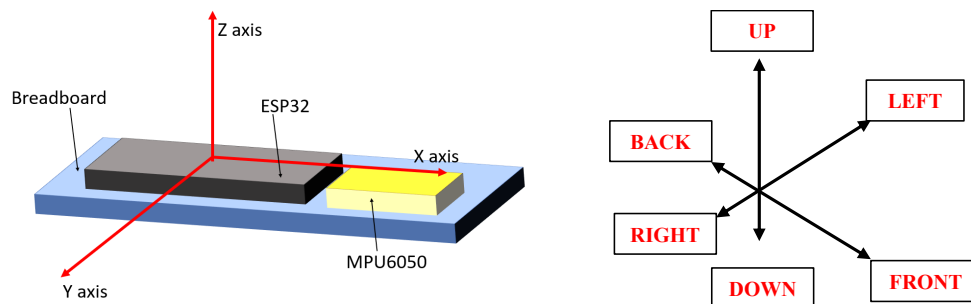

Fig 5. Motion Detector Axes Orientation and Motion Notations
2. ESP32 is working as a client and reads the last updated channel value from ThingSpeak server. As the last value is ‘ACTIVATE’, turn on the **GREEN** Led to indicate that system is in armed state. You can consider that your system has detected **MOTION** if any of the following conditions occur. Also turn on **RED** Led to indicate motion. The 3 different axes of motion: X, Y, Z, and corresponding motions are indicated in Fig. 5